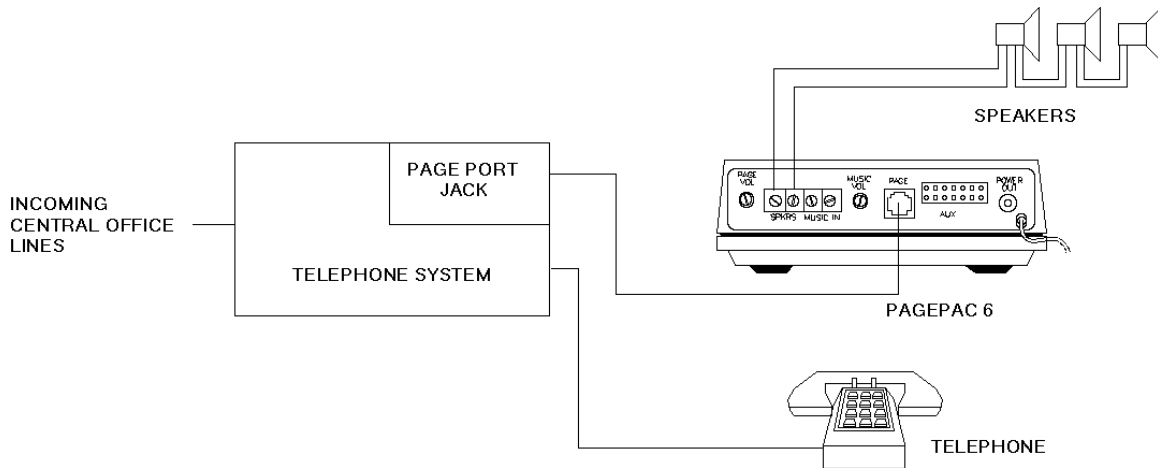

Figure 1. PagePac® 6 Connections to Telephone System Equipped with Page Page Port and a Contact Closure
- For telephone systems equipped with a page port that has a contact closure, the PagePac 6 connects directly to the page port (see Figure 1).